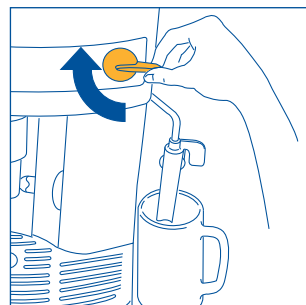

Fig.6
4. After few seconds, a little water will release from the milk frother. When the cup is 1/3 full, turn the steam knob half a turn clockwise (Fig.6) to terminate the flow of water.
- Then interrupt steam delivery by rotating the knob clockwise as far as it will go (fig. 6).
- Once the desired temperature has been reached, stop the steam by turning the steam knob clockwise until it stops (Fig. 6).